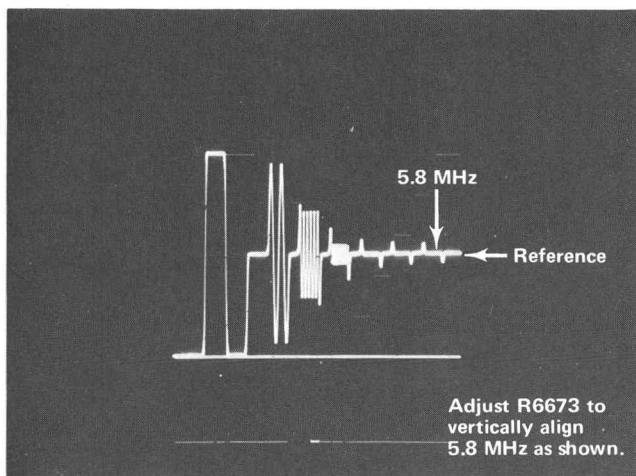

Fig. 4-11. Typical vectorscope display (Y) of Multiburst luminance.
- b. Adjust R6673 (MB Centering) to match the level of the 5.8 MHz burst to the 0 reference level on the vectorscope Y display, see Fig. 4-11.
CHECK—Level of 5.8 MHz burst matches the 0 reference level on the vectorscope Y display, see Fig. 4-11.